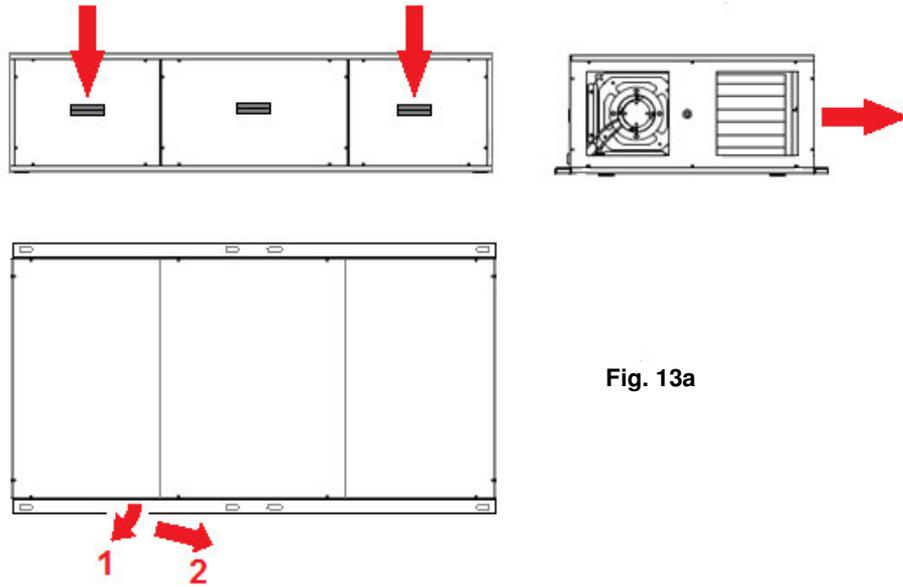

Fig. 13a
- for horizontal unit, by removing an end side panel provided with recessed handle (**fig. 13a**)